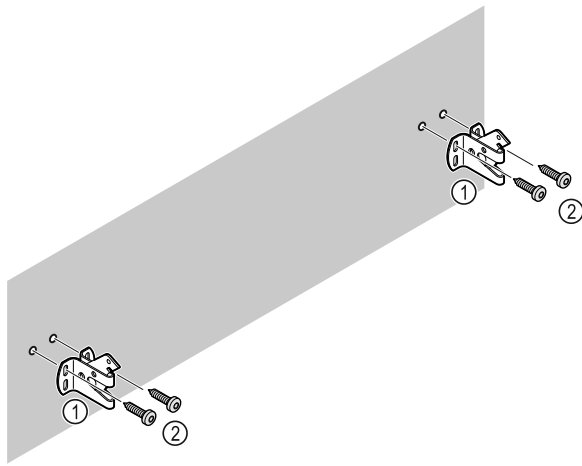

Fig. 11
Use fixing material (e.g. wall anchors) which is appropriate for the nature of the wall (wood, concrete) and sufficient attachment points Fig. 11 (2).
- ▶ Attach retaining hooks. Fig. 11 (1)